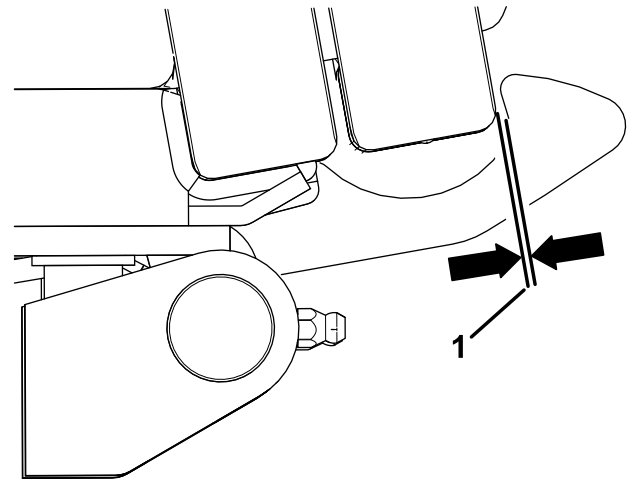

Figure 5
- 4. Check the gap between the hook and the closed hopper door. Ensure that the gap is 2 mm (1/16 inch) and adjust if necessary (Figure 5).